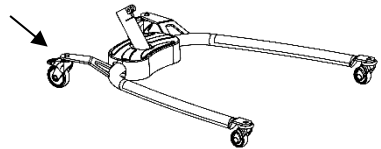

Fig. 1.6A
1. Place the base on the floor and apply the brakes (Fig. 1.6A)